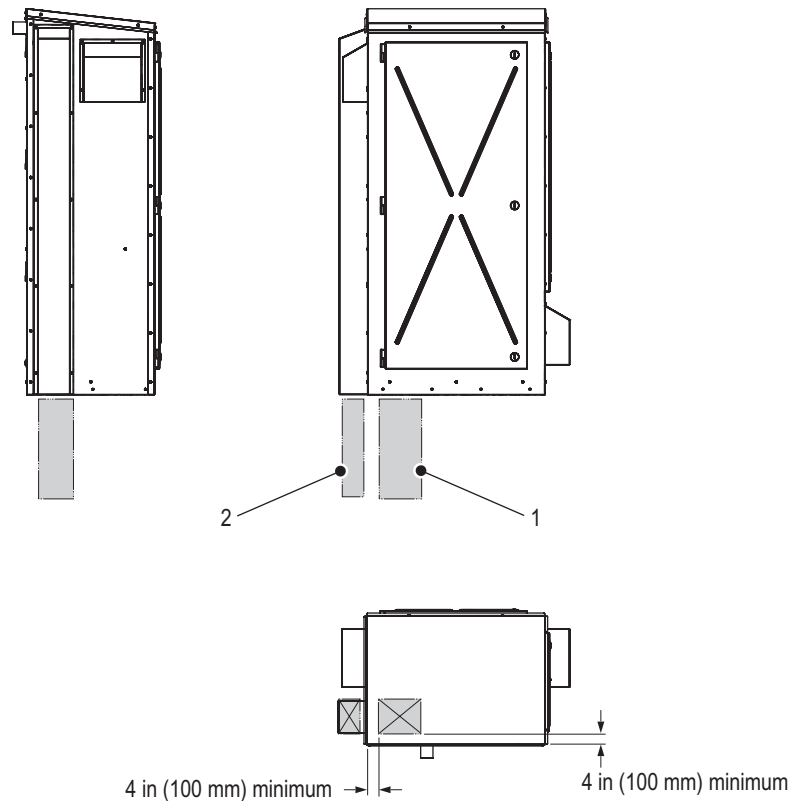

Figure 9: Pipe Chase Location
It is recommended that all external drain lines and all water supply lines are routed through suitable pipe chases. Refer to Figure 9 for the general locations of the pipe chases.
6. (Recommended) Install suitably sized pipe chases for the drain lines and water supply line – refer to Figure 9 on page 27 for general locations.
4. (Recommended) Cut suitably sized openings in the roof and install pipe chases – refer to Figure 9 on page 27 for general locations.